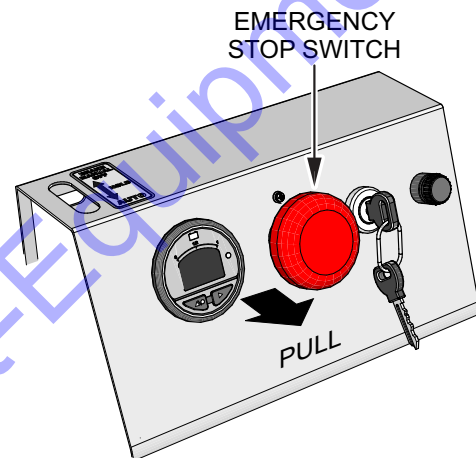

Figure 20. Emergency Stop Switch (Closed)
1. Located on the control panel of the buggy, is the **start/stop** button (Figure 20). Pull this button outward to start the electric motor.